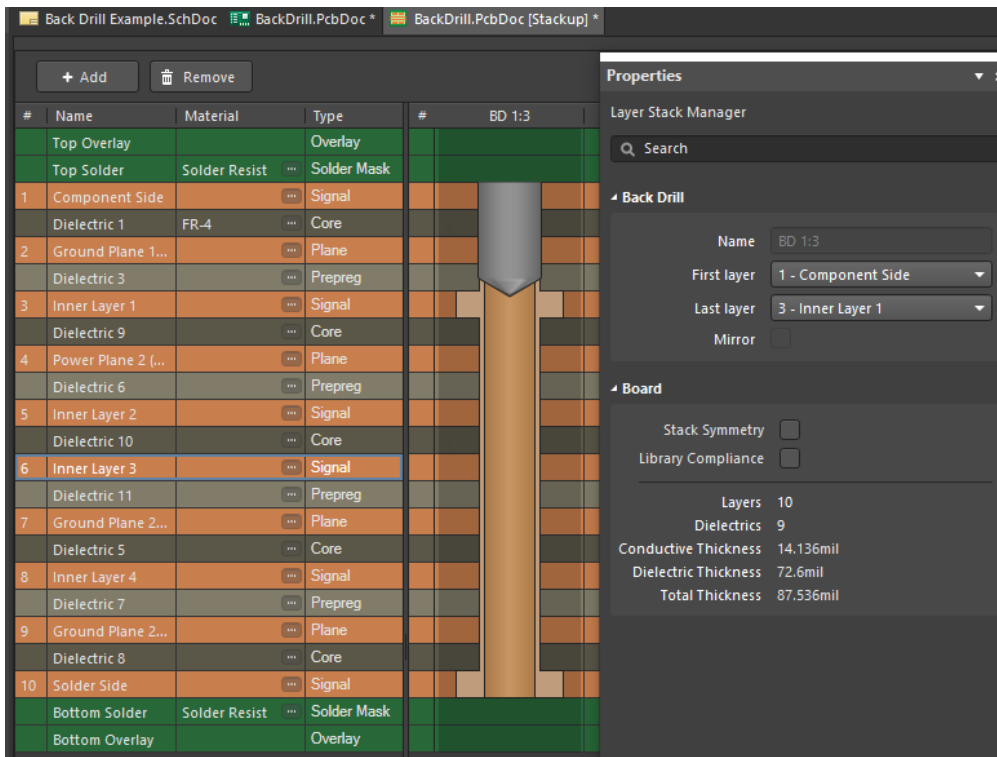

Figure 4. Manually created Back Drill enabled Drill Pair
- Once the Back Drill has been added, select it and open the *Properties* panel. We will leave the **First Layer** as **1 - Component Side**. Let's set the **Last Layer** (or Stop Layer) as **3 – Inner Layer 1**. Note the back drill display updates to reflect the new Back Drill setting, Figure 4.